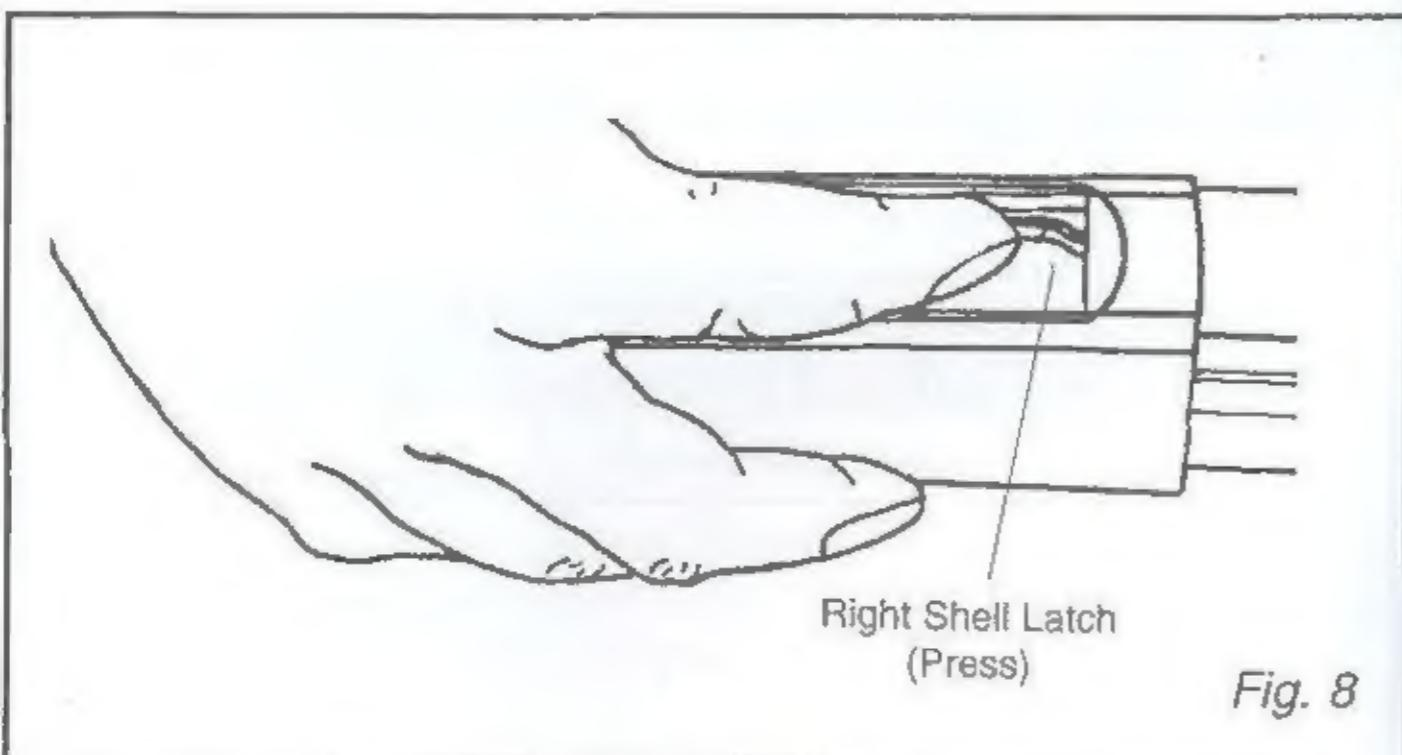

Fig. 8
- Put your finger into the bottom of the receiver, and press down the right shell latch. See Fig. 8.
- Press the right shell latch. See Fig. 8.